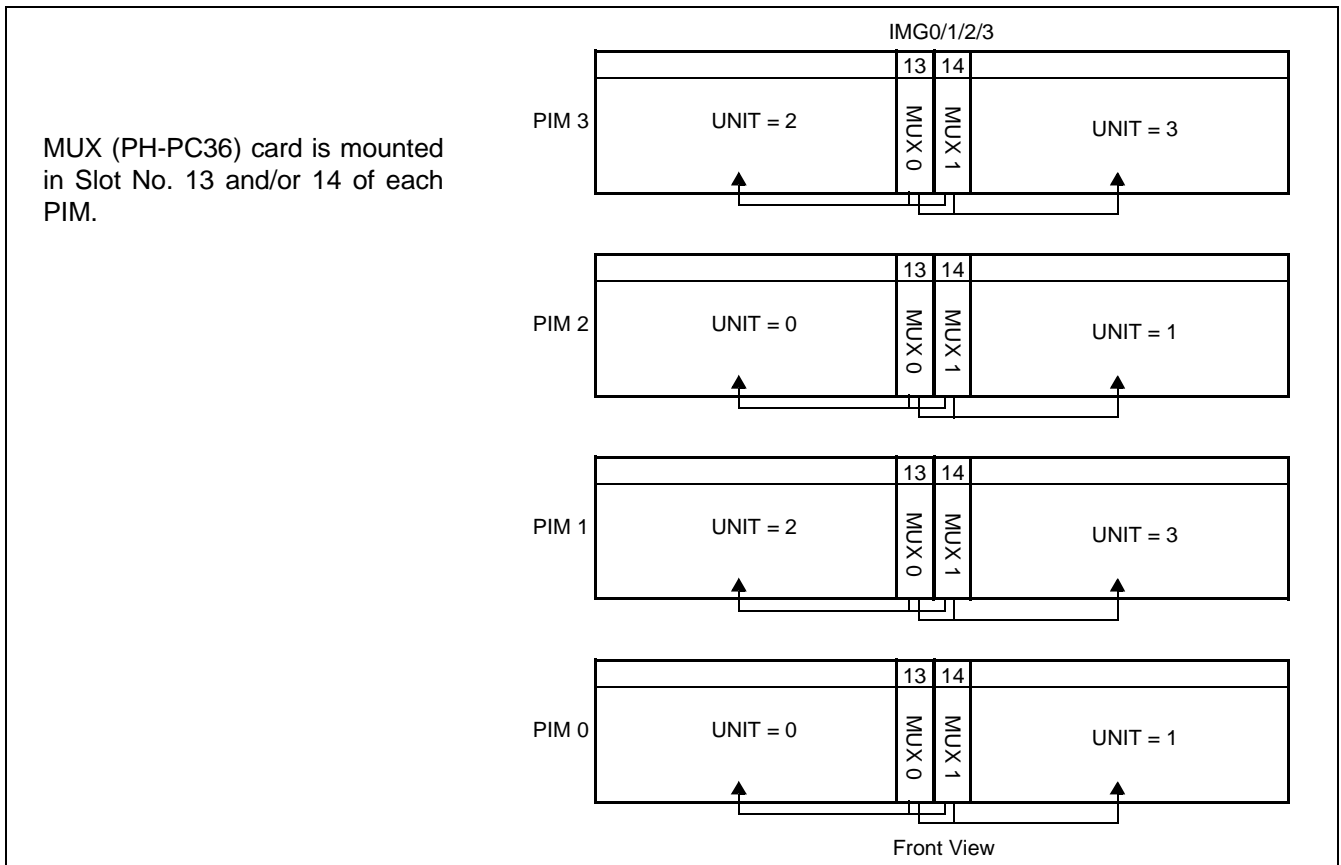

Figure 5-7 MUX Card Locations (LN0/1/2/3)
- (2) The MUX circuit cards are operating in the ACT/STBY modes under control of the CPU circuit. When the ACT-side CPU has detected a fault in the ACT-side MUX circuit card, CPU changeover is executed and the ACT/STBY mode of the Speech Path System is also changed over. When both of the MUX circuit cards have become faulty, all the lines/trunks in that unit are placed into make-busy state. (If a PFT circuit card is located in that specific unit, the PFT is activated.) Figure 5-7 shows the location of the MUX cards.
- (3) When both units in a specific PIM are faulty, it is possible that the PWR circuit card mounted in that specific PIM is faulty. In such a case, refer to Section 9, Power Supply Fault.